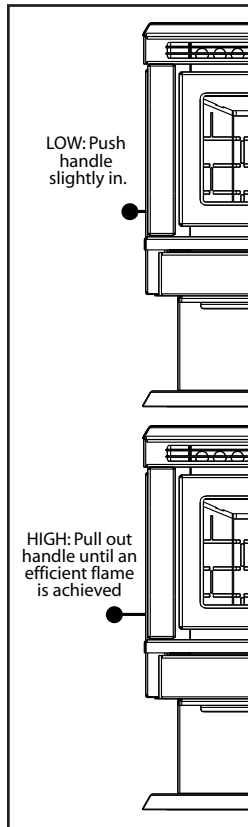

Figure 33 : Slider / Damper Knob.
**THE SLIDER / DAMPER MUST BE SET AT TIME OF INSTALLATION. A Qualified Service Technician or Installer must set the Slider Damper.** This is used to regulate the airflow through the pellet stove. The slider damper knob is located on the left cab side (see Figure 33).